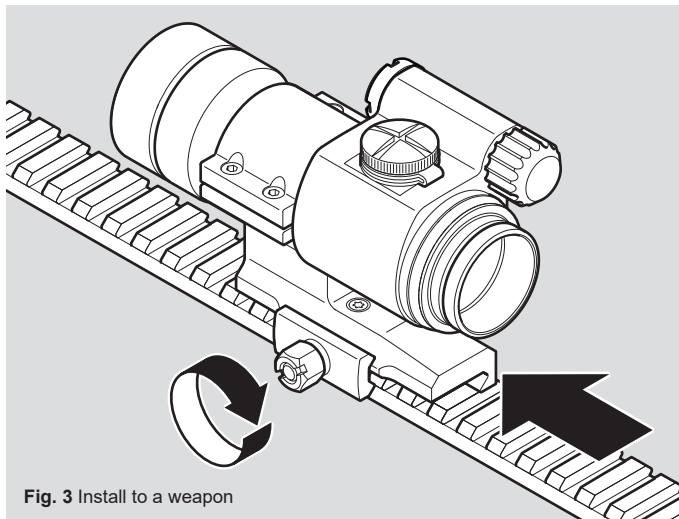

Fig. 3 Install to a weapon
- b Loosen the nut (12) of the mount (11).
- d Push the sight forward (toward muzzle) and handtighten the nut firmly at the same time. The recoil stop shall be in contact with the front edge of the groove. See Fig. 3